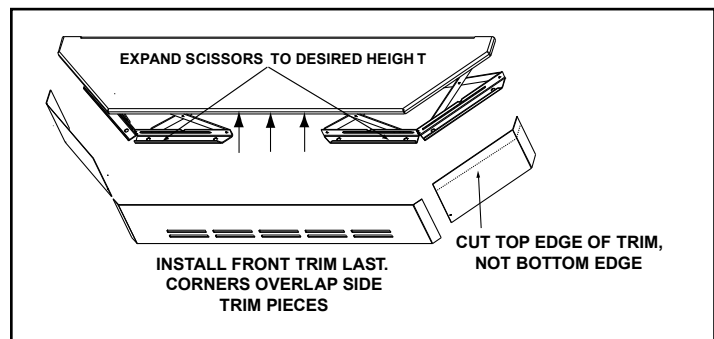

Figure 20.2
2. Expand scissors to desired height. Tighten screws to hold in place using Phillips head screw driver. **Figure 20.2.**